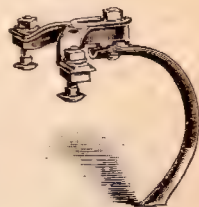

Fig. 112
**Single Tooth Attachment.**—When using the "IRON AGE" Double Wheel Hoe as a Single Wheel Hoe, as a Cultivator, a wider space is left between the two inside teeth than there is between the other teeth. This is because as a Double Wheel Hoe the crops cultivated must pass between the two inside teeth, while the distance between the others should be less. Therefore, to thoroughly cultivate all the ground while working the tool as a Single Wheel Hoe it is necessary to add an extra tooth, as shown in Fig. 112. Price, \$0.50